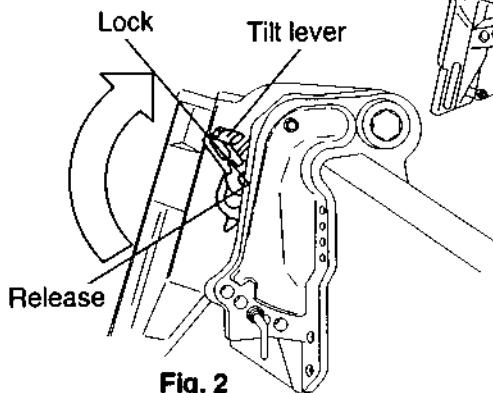

Fig. 2
- ③ Set the tilt lever on the starboard side to "LOCK" by turning it upward. Tilt the outboard up entirely. The outboard will be locked automatically in the raised position. (Fig. 2)